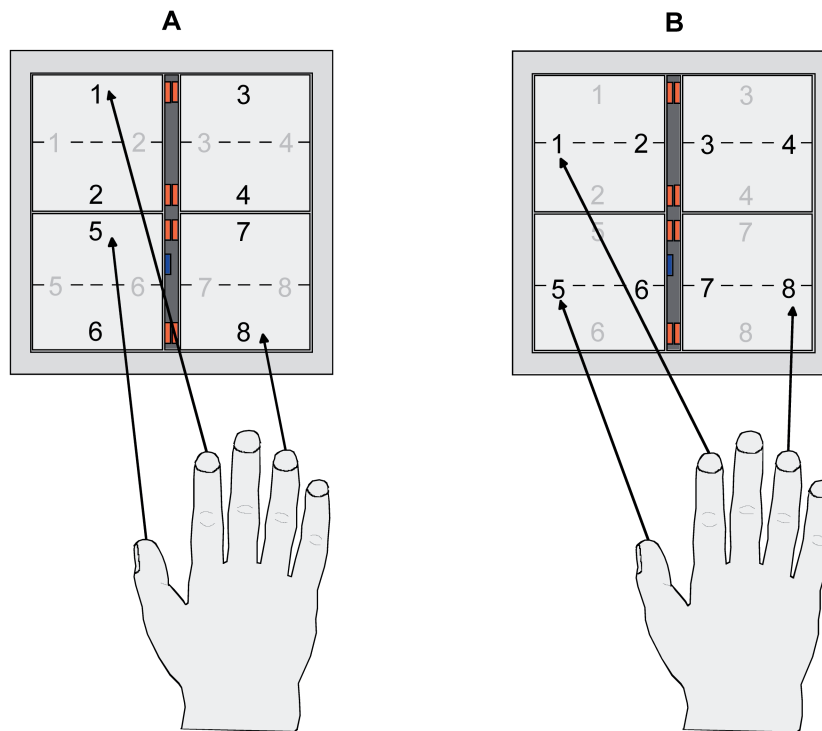

Figure 34: Three-button press taking into account the configured button arrangement.
In the 4-gang universal push-button sensor TSM, an active disable can be released by means of the so-called three-button press. For this purpose, buttons B1, B5 and B8 (figure 34) must be pressed and held down for at least five seconds. The following illustration shows the three-button press depending on the button arrangement configured in the ETS (A: "top / bottom", B: "left / right").
- i** If the control surfaces for the button pairs 1&2 and 5&6 are configured to push-button function and single-surface operation, then the control surfaces may not be pressed at the centre during a three-button press! In this case the control surfaces must be depressed at the side taking into account the button arrangement, as shown in the above operation examples (figure 34).